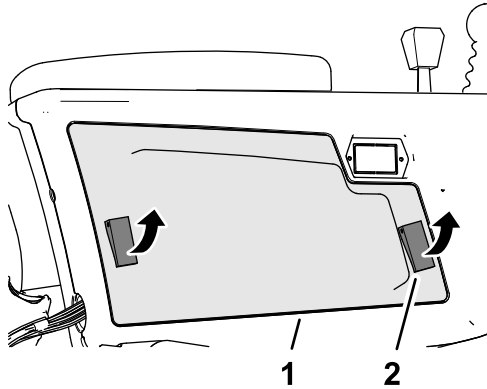

Figure 98
2. Open the 2 latches that secure control-arm cover to the control arm, and remove the cover (Figure 98).